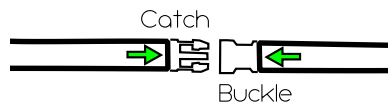

Figure 2.13
- To close the belt, push the catch into the buckle. The belt will close. (Fig 2.13)